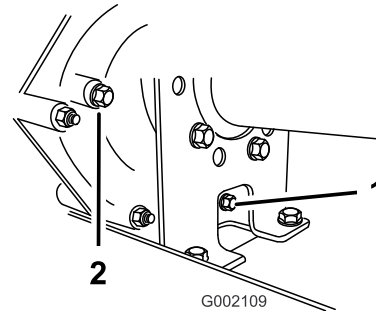
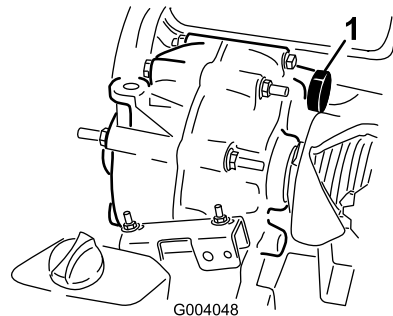

Figure 48
Figure 49
2. Remove the drain plug from the right side of the reservoir (Figure 48) and let the fluid flow into a drain pan. Install and tighten the plug when the fluid stops draining.
3. Fill the reservoir (Figure 49) with approximately 1-1/2 qt. (1.4 liters) of SAE 10W30 motor oil or until the oil level is at the bottom of the level indicator hole (Figure 48).